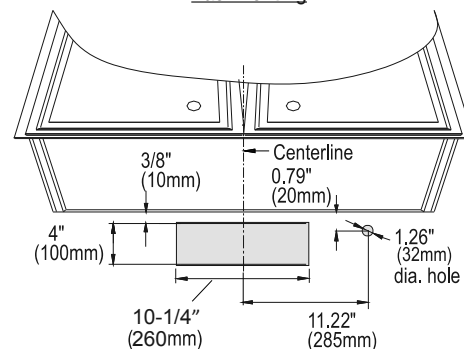

Fig.4
- Determine if your existing venting system is top venting (rectangular duct or 7" round duct) or back venting, and ensure that the openings in the cabinet or wall for the damper and for power access are in appropriate locations and are of appropriate sizes. See Fig. 3 for top venting installations and Fig. 4 for back venting installations.
- If this is a new installation, choose the venting method that suits your needs. Cut out openings for the damper and for power access in the cabinet bottom or exterior wall. See Fig. 3 for top venting installations and Fig. 4 for back venting installations.